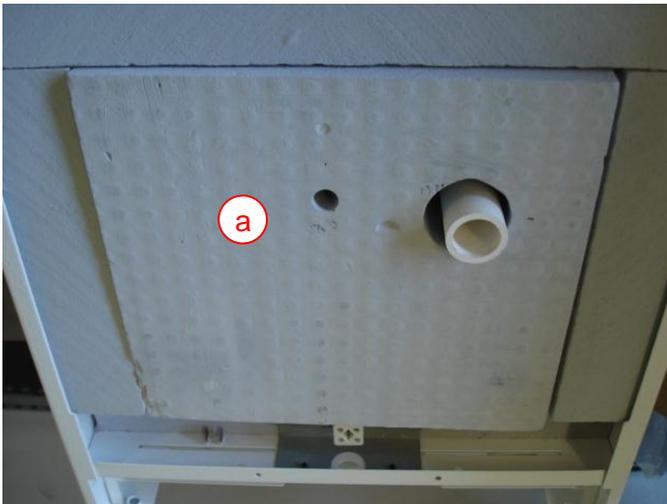

Fig. 37 – Unit with rear wall removed
- Remove the isolating plate (fig. 37 a)